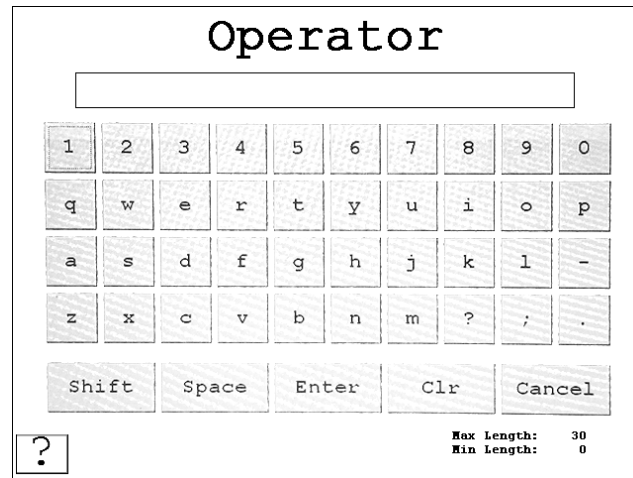

Figure 4-13. Operator Screen
1. On the Main Menu, press *Operator*. The Operator screen appears (Figure 4-13) showing the identifier for the current machine operator.